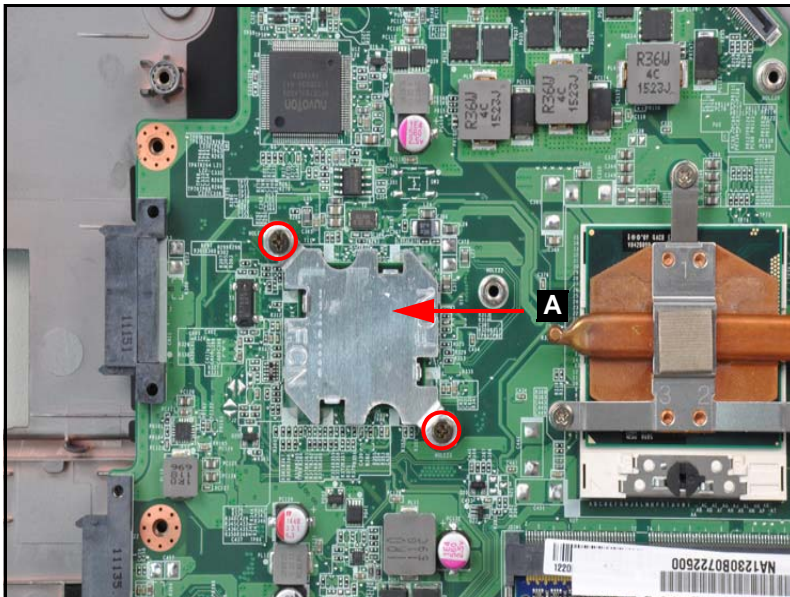

Figure 3-31. PCH screws Removal
1. Find the PCH (A). Refer to Figure 3-31.
2. Remove the two (2) screws from the mainboard (Figure 3-31).
- 2. Install and secure two (2) screws to the mainboard (Figure 3-31).